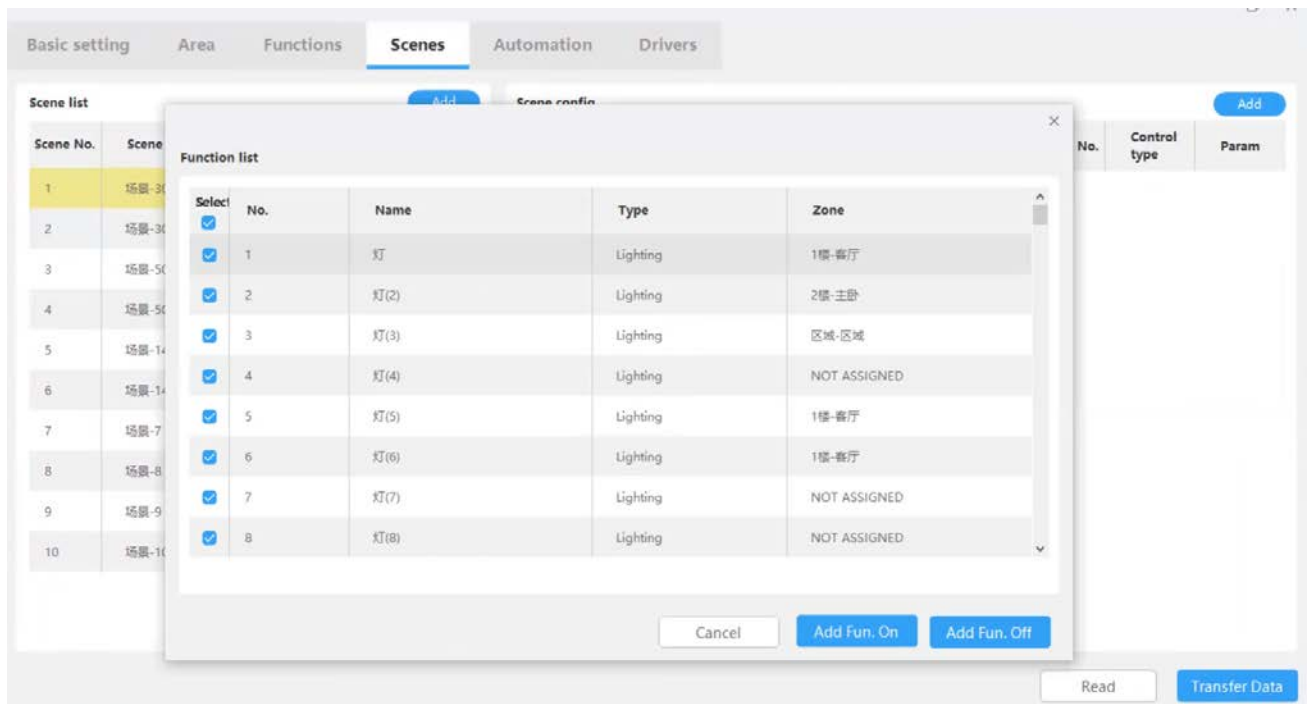

Figure 6-2 Add Scene
- As shown in Figure 6-2, if you would like to add scenes, click “Add” then select scenes and click “Add Fun. On” or “Add Fun. Off” to complete the configuration.